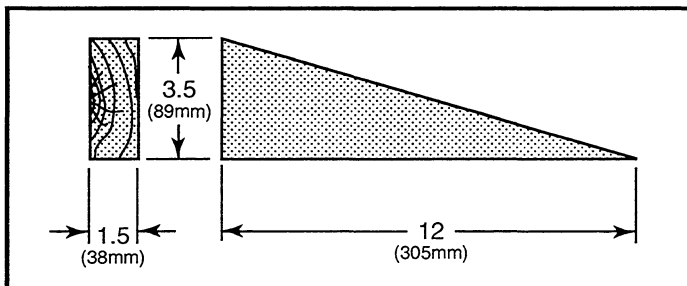

FIGURE 9-5 - Upper knife holder
13. Three wood wedges are required for supporting the upper knife while knife bolts are removed. The wedges can be cut from standard 2" x 4" (51 x 102mm) lumber. Refer to Figure 9-5.